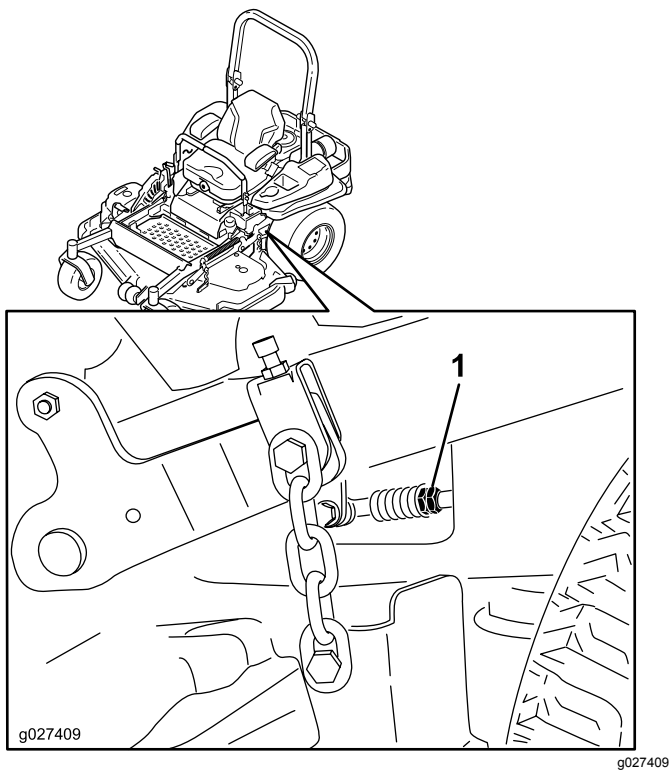

Figure 98
11. Adjust the pump control rod lengths by rotating the double nuts on the rod in the appropriate direction until the wheels slightly creep in reverse (Figure 98).